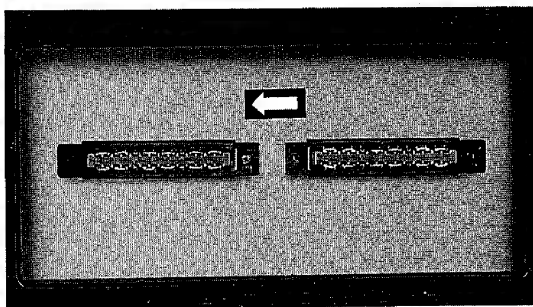

Figure 2A
3. Remove the 28-pin jumper connectors* from their sockets in the compartment. Save these connectors in case you later wish to return the mixer to the unbalanced configuration. (Refer to Figures 2A and 2B.)